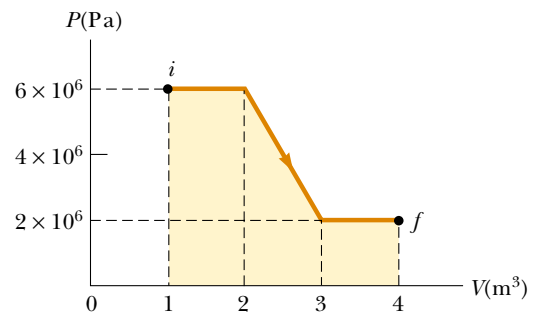

Figure P20.22
- (a) Determine the work done by a fluid that expands from i to f as indicated in Figure P20.22. (b) How much